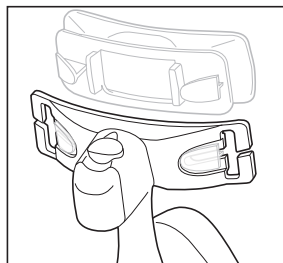

Figure 7
2. **Forehead pad** - Slide off the track of the forehead pad support (Figure 7).